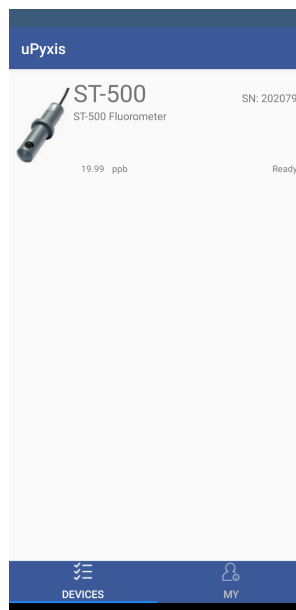

Figure 8.
3. If the connection is successful, the ST-500 Series and its Serial Number (SN) will be displayed (Figure 8).